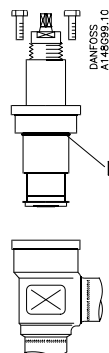

Fig. 8
**Dismantling the valve (fig. 8)**